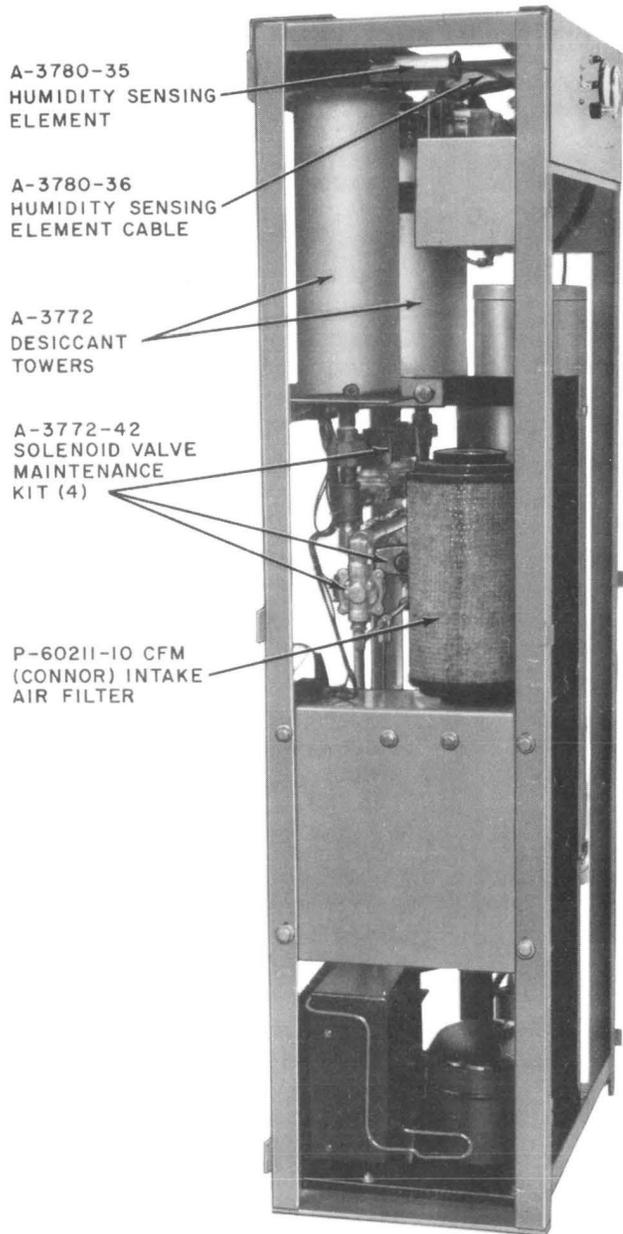

Fig. 3—KS-20183 L2 and L3 Air Dryers—Left Side Panel Removed
3.11 The humidity sensing element is removed and replaced as follows (Fig. 3).